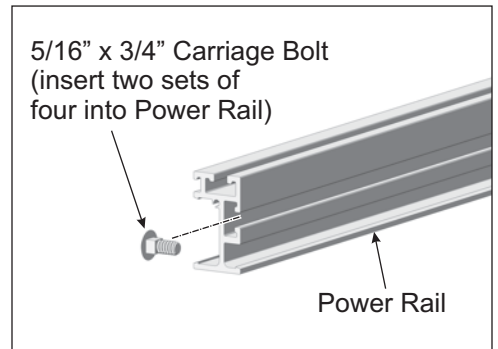

Figure 5-2: Pre-loading Carriage Bolts
- C. Pre-install two sets of four\* 5/16" x 3/4" carriage bolts into the Power Rail. One set for each Power Rail U-bolt Bracket. (See Figure 5-2)